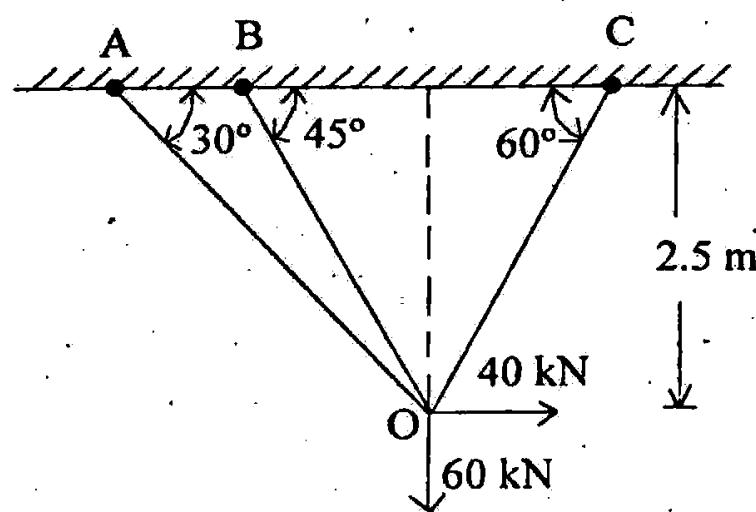

Fig. 5
5. Analyse the pin jointed truss shown in Fig. 5 by Direct Stiffness Method. Take area of cross section of members as  $1000 \text{ mm}^2$  and modulus of elasticity  $E = 200 \text{ kN/mm}^2$ . Also find out support reactions. 13.